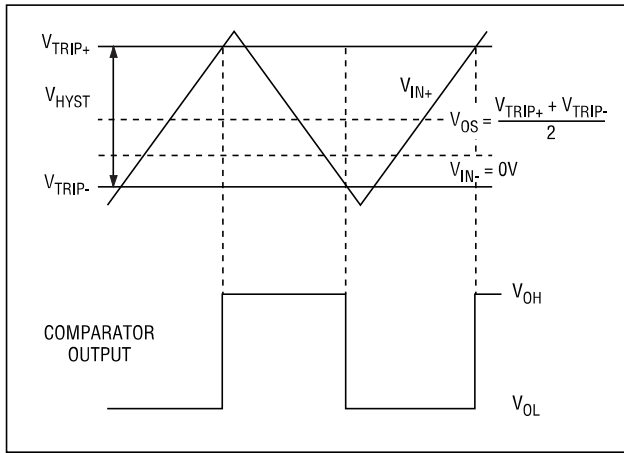

Figure 1. Input and Output Waveforms, Noninverting Input Varied
- Note 1:** Trip Point is defined as the input voltage required to make the comparator output change state. The difference between upper (V_{TRIP+}) and lower (V_{TRIP-}) trip points is equal to the width of the input-referred hysteresis zone (V_{HYST}). Specified for an input common-mode voltage (V_{CM}) of 0V (see Figure 1).
- Note 2:** Input Offset Voltage is defined as the center of the input-referred hysteresis zone. Specified for V_{CM} = 0V (see Figure 1).
Adding hysteresis to a comparator creates two trip points: one for the input voltage rising and one for the input voltage falling (Figure 1). The difference between these two input-referred trip points is the hysteresis.
Figure 1 illustrates the case where IN- is fixed and IN+ is varied. If the inputs were reversed, the figure would look the same, except the output would be inverted.